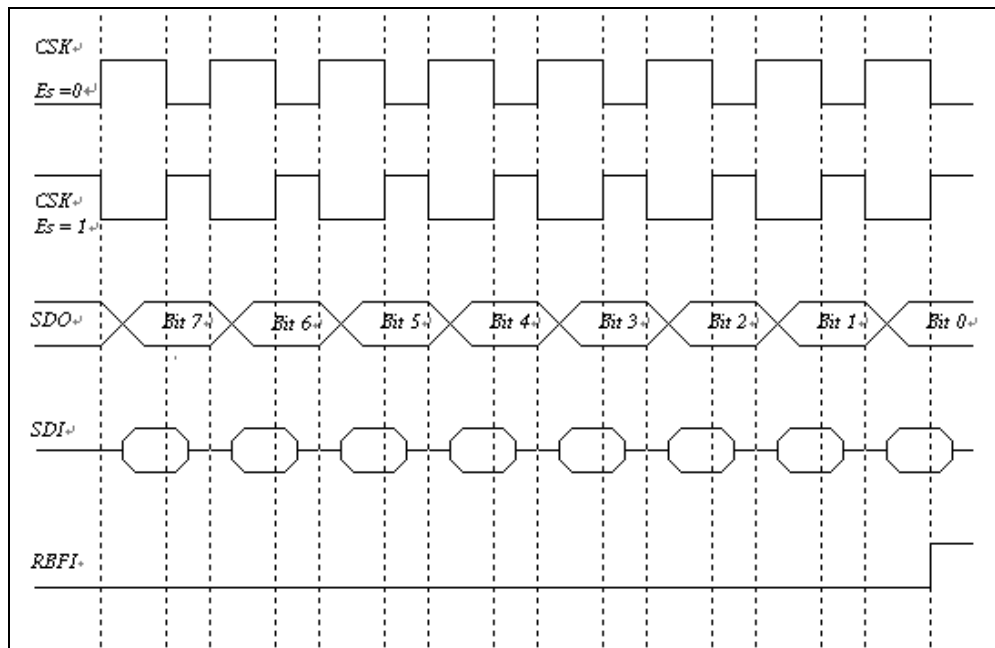

Figure 6-17a SPI Mode with /SS Disabled Timing Diagram
- Timing is shown in Figures 6-17a and 6-17b (Section 6.7.4).